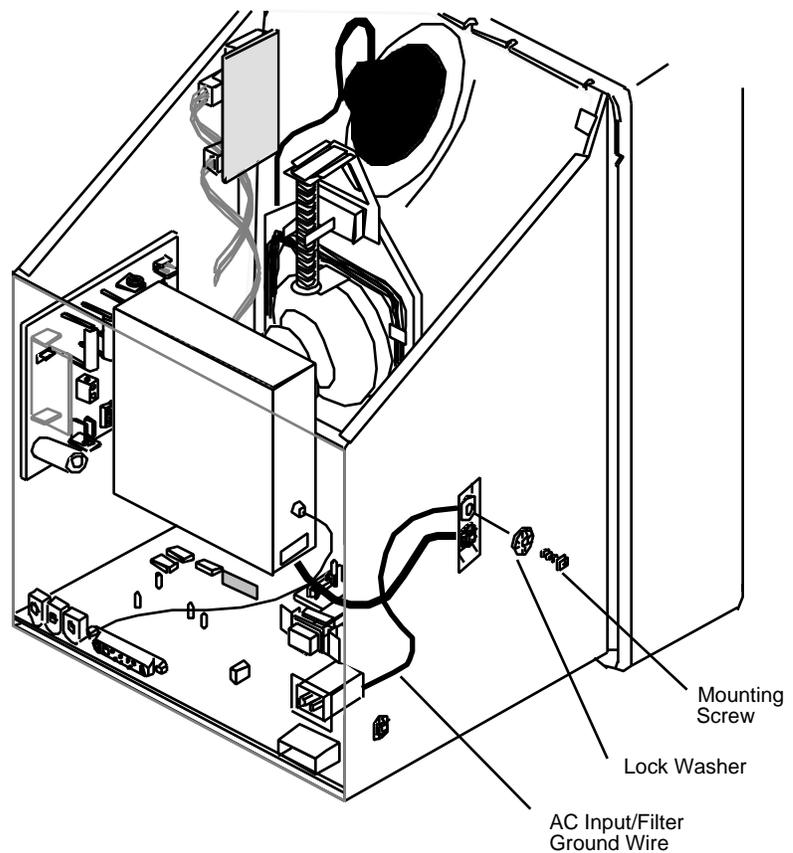

FIGURE 18
4. Remove the screw, lock washer, and AC input/filter ground wire from the ground bracket (**Figure 18**).
2. Install the AC input/filter ground wire on the chassis ground bracket with a lock washer and a screw (Figure 18).